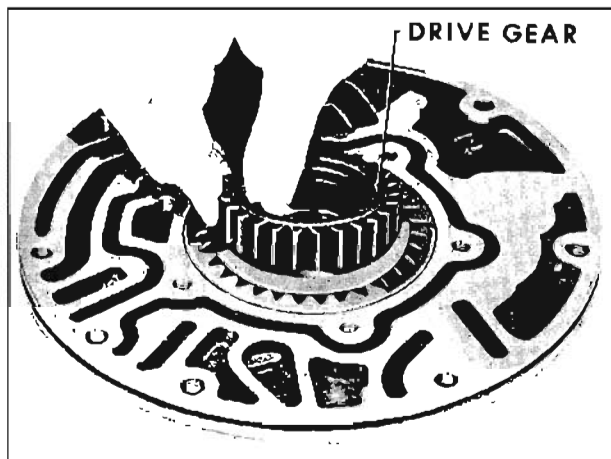

Fig. 6-325 Removing Oil Pump Drive Gear
6. Remove oil pump drive gear. (Fig. 6-325)